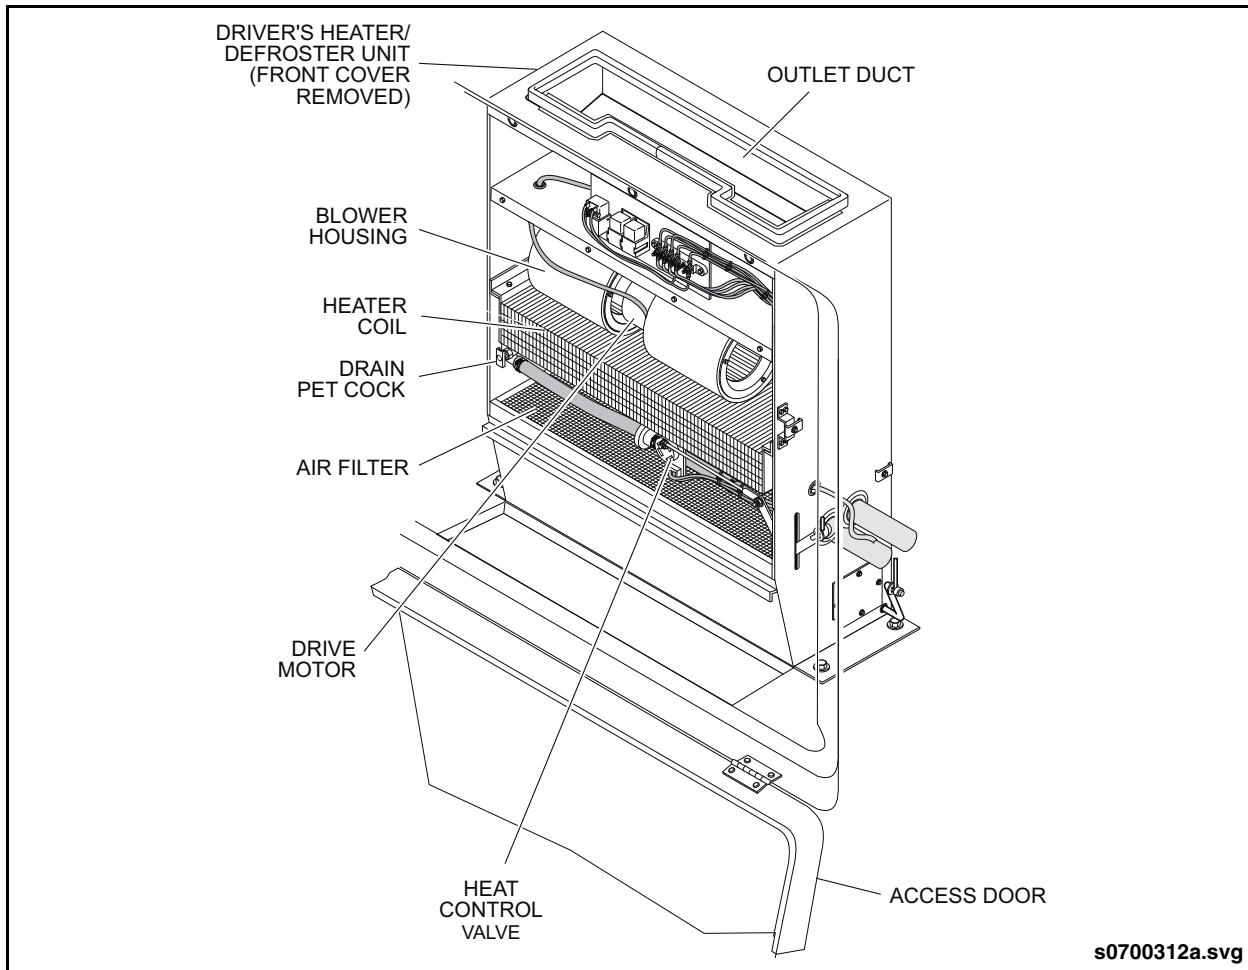

Fig. PM-28: Defroster Inspection
- Inspect air filter. Clean or replace as required. See "Fig. PM-28: Defroster Inspection" on page 59.